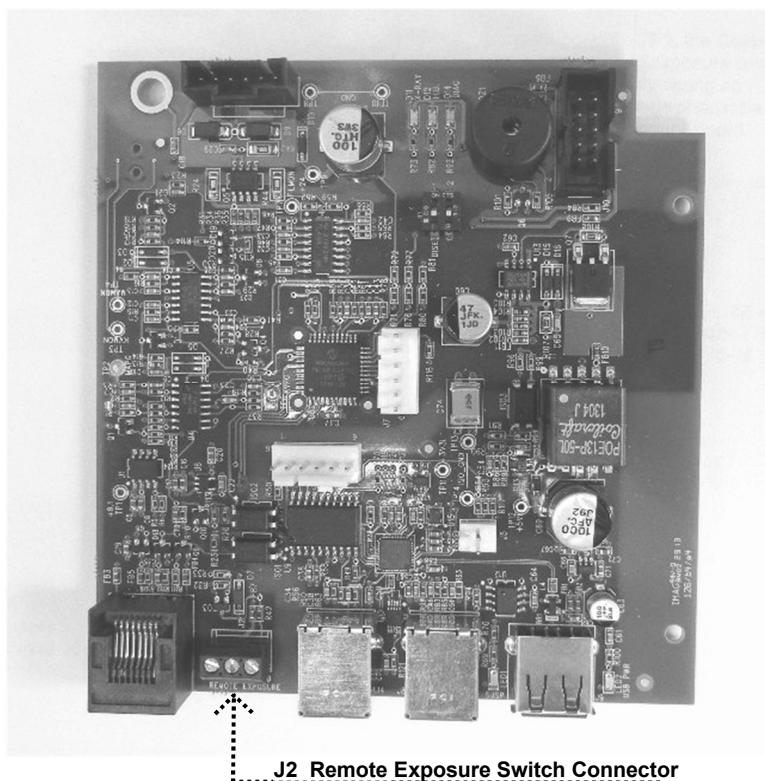

Figure 64
1. If the Operator Panel indicator does not sound, inspect the condition of any remote exposure switches. Substitution is the preferred method to test these switches, although a jumper wire can be applied across the contacts of J3, shown in Figure 64, on the Logic Board momentarily to simulate an exposure switch closure.